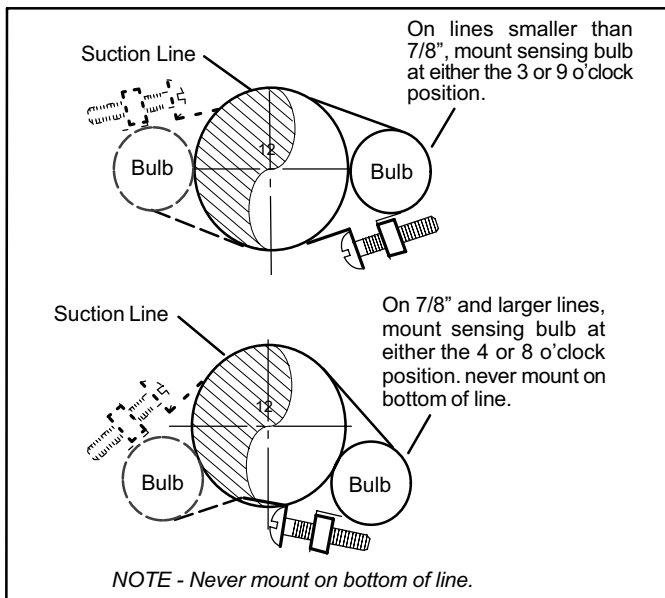

Figure 21. TXV Sensing Bulb Installation
5. Attach the suction line sensing bulb in the proper orientation as illustrated in figure 21 using the clamp and screws provided.